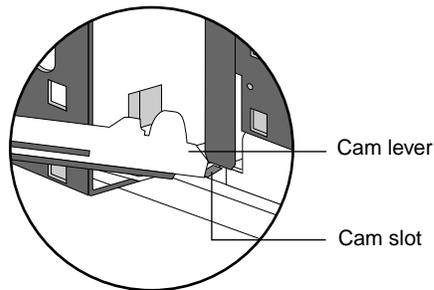

Figure 17. Cam lever engaging in cam slot
6. Push the drawer handle up so that the cam lever engages the cam slots in the HDDA chassis, as shown in Figure 17.